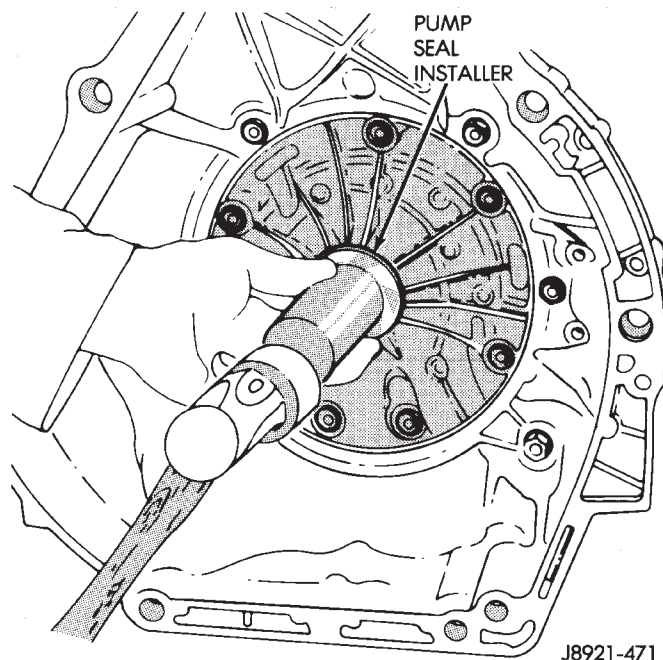

Fig. 54 Installing Oil Pump Seal
- (1) Remove converter.
- (2) Remove old seal. Use blunt punch to collapse seal and pry seal out of pump housing. Do not scratch or damage seal bore.
- (3) Lubricate lip of new seal with Mopar Mercon transmission fluid and install seal in pump with tool 7549 (Fig. 54).